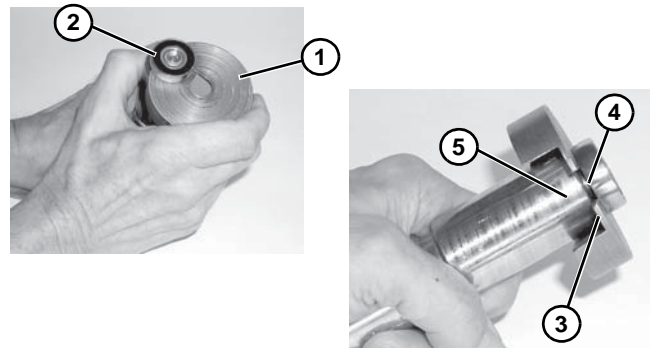

Figure 36
1. Place bearing removal tool part #456063 (**Figure 36, item 1**) below bearing (**Figure 36, item 2**) with lip (**Figure 36, item 3**) located in gap (**Figure 36, item 4**) between bearing and spindle hub (**Figure 36, item 5**) as shown.